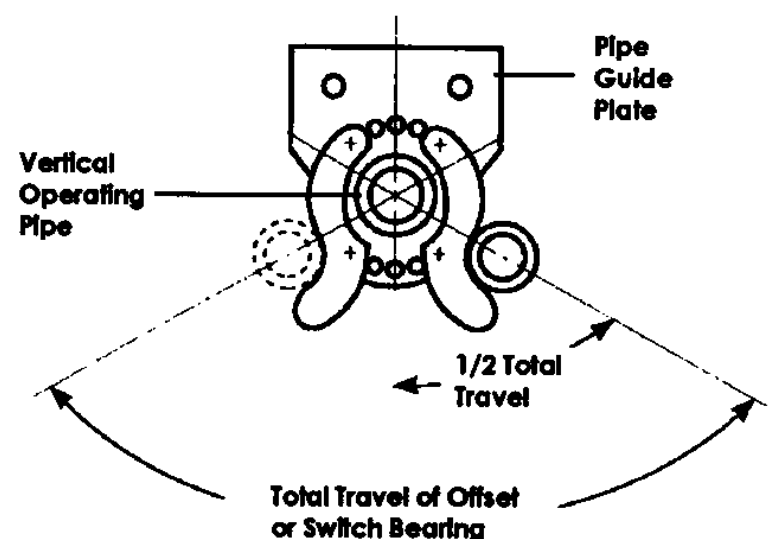

Figure 14
A pipe splice and guide plate (Fig. 14) are furnished for structures taller than 23 feet. The pipe splice and both pieces of pipe are drilled for insertion of the 5/8-inch diameter pins.
2. Mount the guide plate shown in Fig. 14 (after installing the vertical operating pipe as per section 4.2.9).
The operating handle lock plate (Fig. 14) on the swing handle operator is made of two castings mounted on the pipe guide plate (Fig. 14). The castings can be easily adjusted in an arc to attain the required rotation. The castings act as locks for the manual operating handle when it is dropped vertically from the operating position. The handle must be raised to a horizontal position for operation.
2. Slide the handle and the handle lock plate (Fig. 14) over the end of the vertical operating pipe.